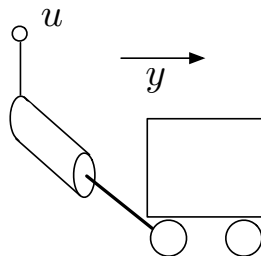
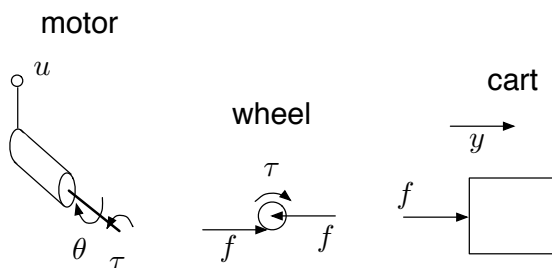

Figure 2.12: A cart with a motor drive.
Figure 2.13: Free body diagram.
7. *Cart and motor drive.* This is a harder example. Consider a cart with a motor drive, a DC motor that produces a torque. See Figure 2.12. The input is the voltage u to the motor, the output the cart position y . We want the model from u to y . To model the inclusion of a motor, draw the free body diagram in Figure 2.13. Moving from right to left, we have a force